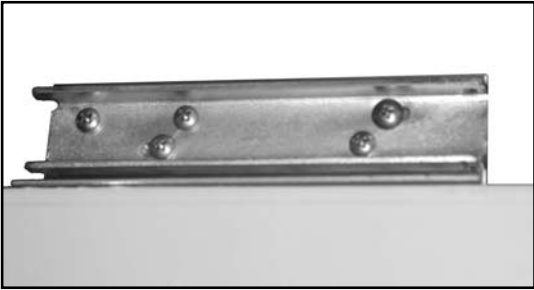

Figure 1
1. Locate Door Closer Mounting Base on top of Door. See **Figure 1**.